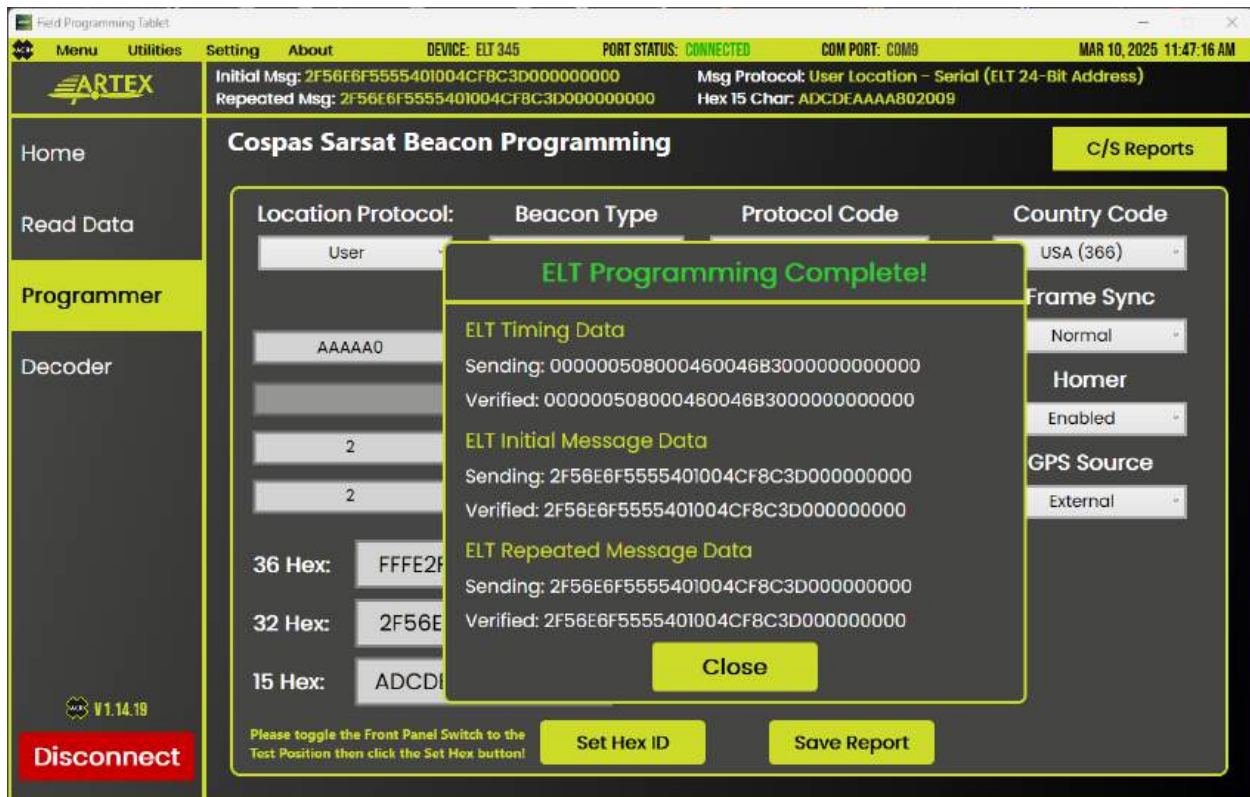

Figure 18 – Cospas-Sarsat Programmer
9. Do not close the popup window (Figure 18) until the **“ELT Programming Complete!”** or **“ELT Programming Failed!”** is displayed.